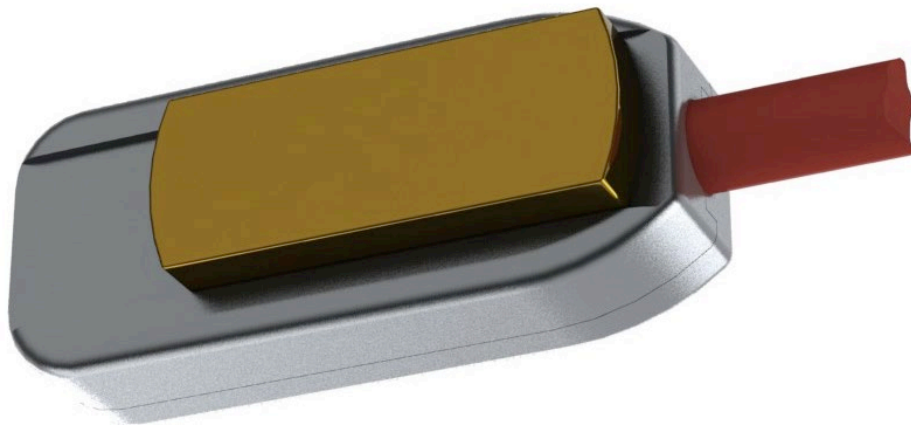

Figure 8: Noise level from a $\pm 5g$ accelerometer using a 24-bit data acquisition system
1. Place a tab through the mounting hole from the bottom and tighten the 1/4-20 (or M6) nut to approximately 40 in-lb. Note that the bottom of the sensor has a machined slot to capture the mounting tab as shown in Figure 8 so there should be no need to hold the mounting tab in place.